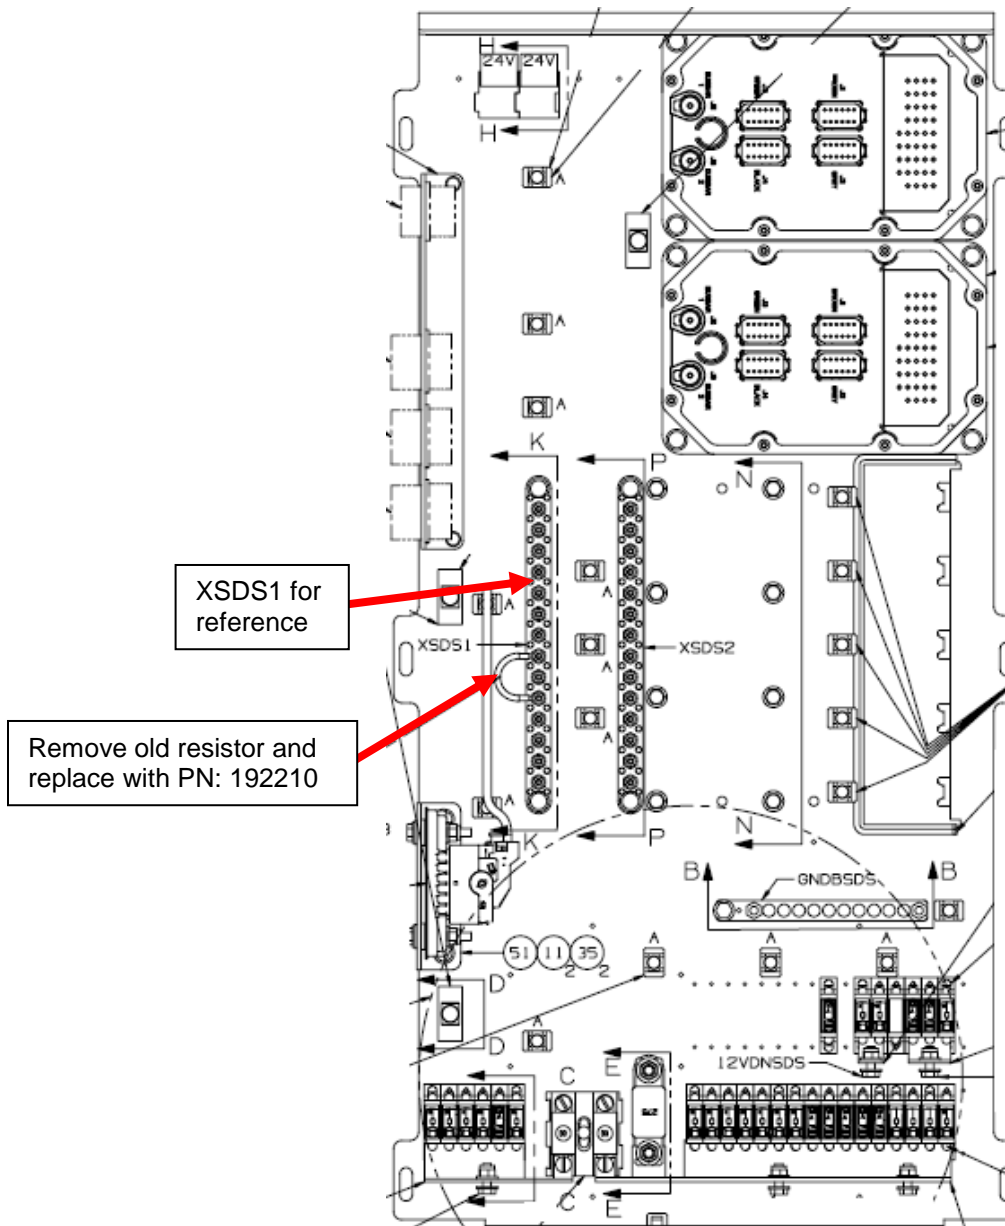

Figure 4: Rear facing side of SDS compartment.
18. Remove and replace pull down resistor with PN: (192210) and torque resistor connection on terminal block at XSDS1-8 and XSDS1-10 to 10.6 in-lbs as indicated in figure 4.